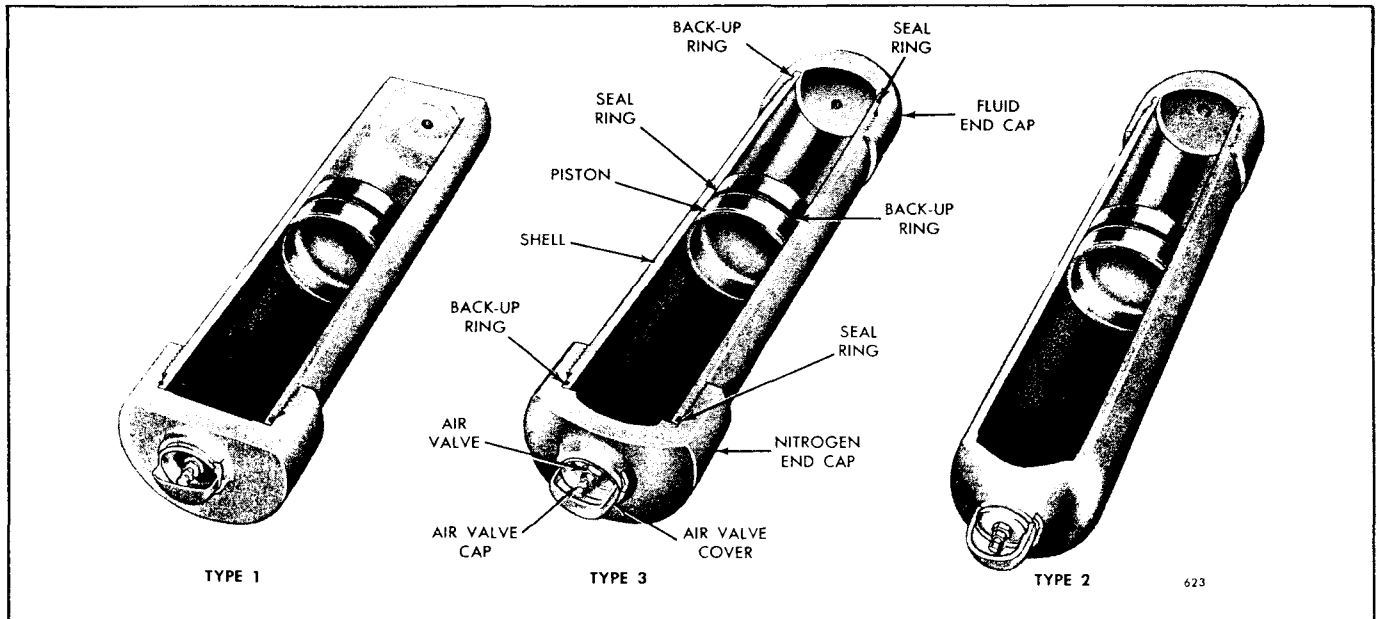
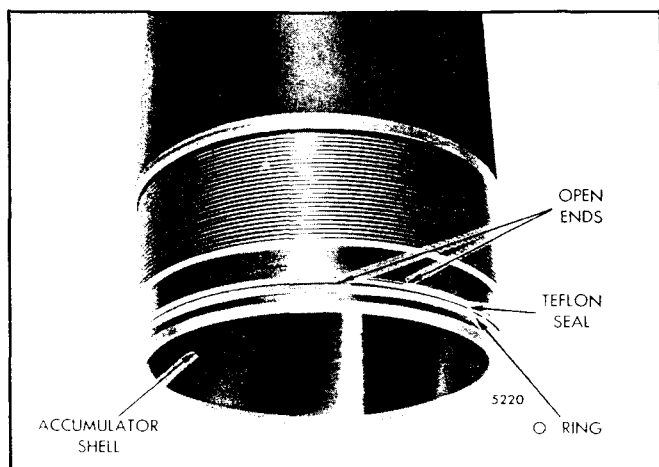

Fig. 20 - Cross Section of Typical Accumulators
Fig. 21 - Proper Installation of Teflon Back-up Ring
Three different types of accumulators (Fig. 20) have been used with the Hydrostarter system. The accumulator consists of a heavy duty shell assembly and piston designed to hold the nitrogen pressure for an extended period of time.
1. If a defective air valve was the cause of leakage, remove the air valve cover (Fig. 20) from the accumulator cap and the air valve cap from the air valve. Loosen the 5/8" hex swivel nut on the air valve stem approximately 1-1/2 turns and then depress the valve core to release any remaining nitrogen pressure before removing the air valve. Remove the valve and replace it with a new part.
1. Install new teflon back-up rings (Fig. 20) and new seal rings ("O" rings) in the grooves of the shell, with the seal ring nearest the open end of the shell (Fig. 21).
2. Remove the air valve cover (Fig. 20) from the accumulator cap and the cap from the air valve.